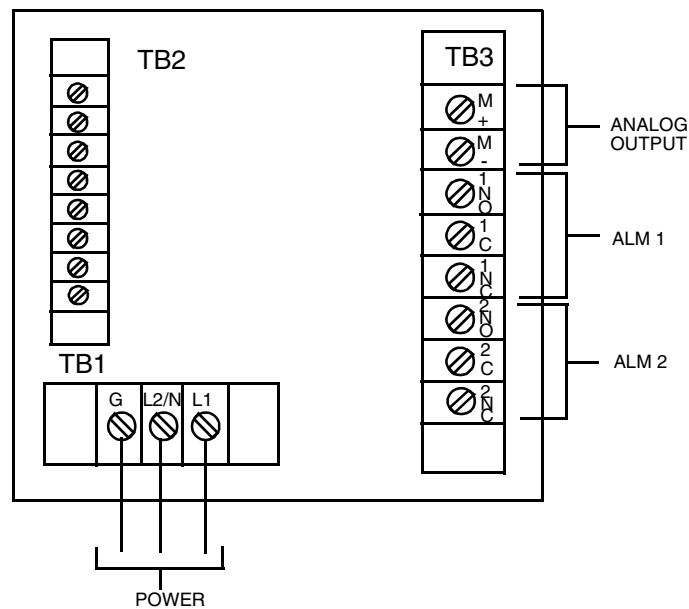

Figure 10. Plastic Enclosure Rear Panel Wiring for Power, Output, and Alarms
2. Connect ALM 1 and ALM 2 alarm wires to terminal block TB3 as shown in Figure 10. Failsafe operation requires connections to be made between contacts NC and C. Also see “Wiring of Alarms” on page 22.
3. Connect wires from external circuit for analog output to terminals TB3 (M+) and TB3 (M-). Refer to Figure 10.
6. Connect power wires to terminal block TB1 as shown in Figure 10.